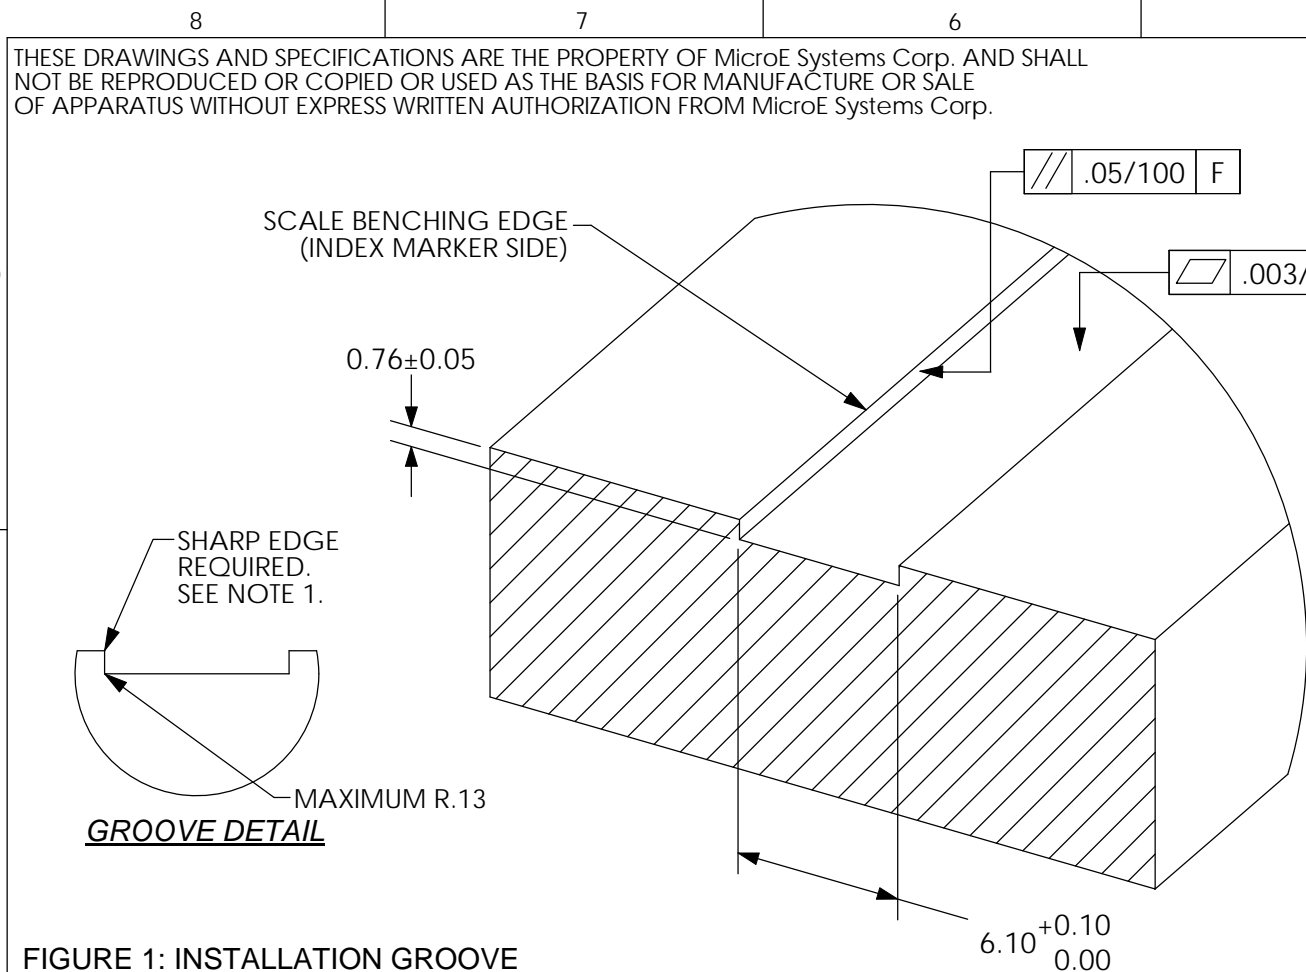
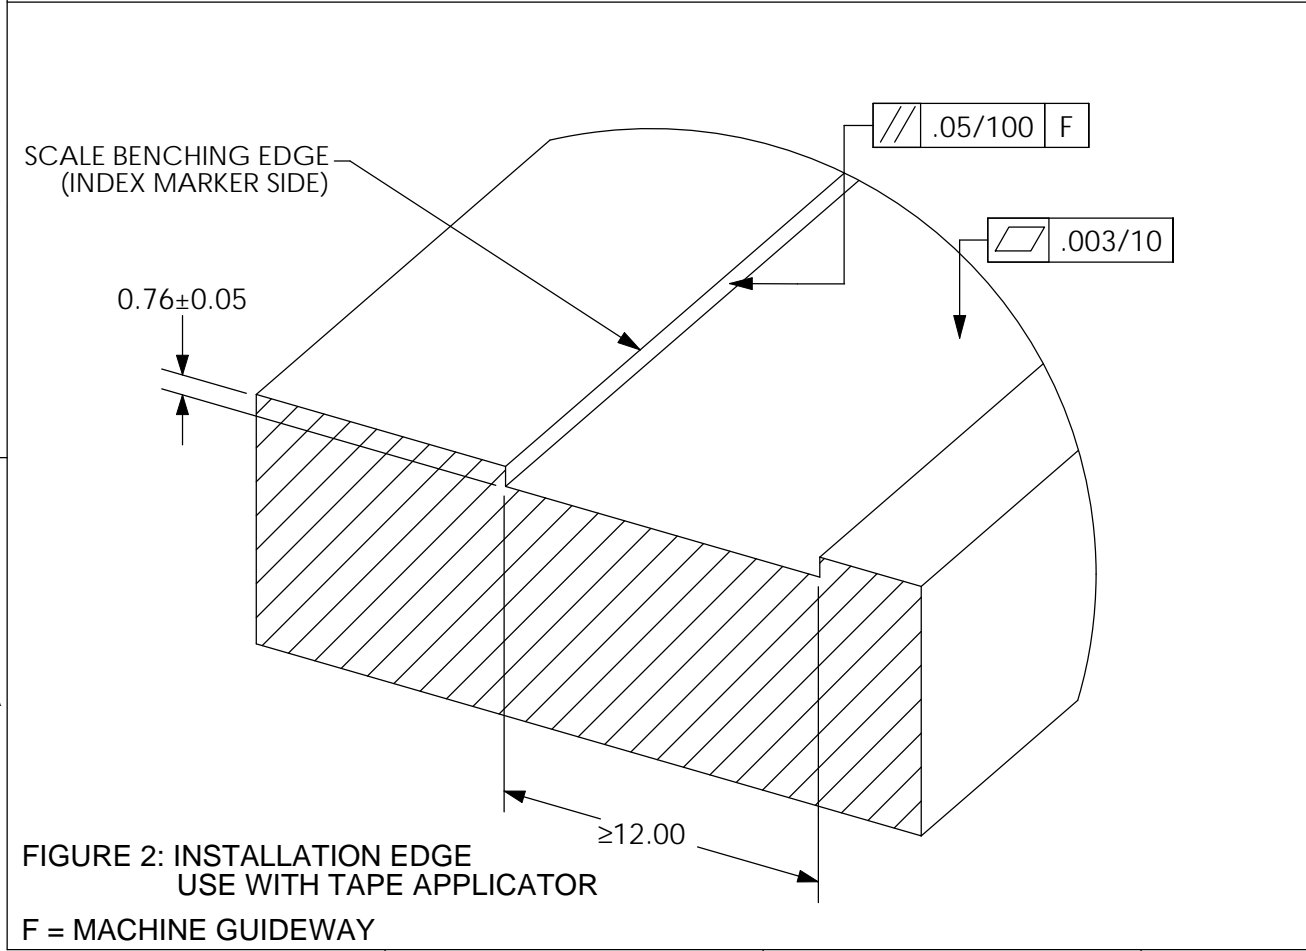
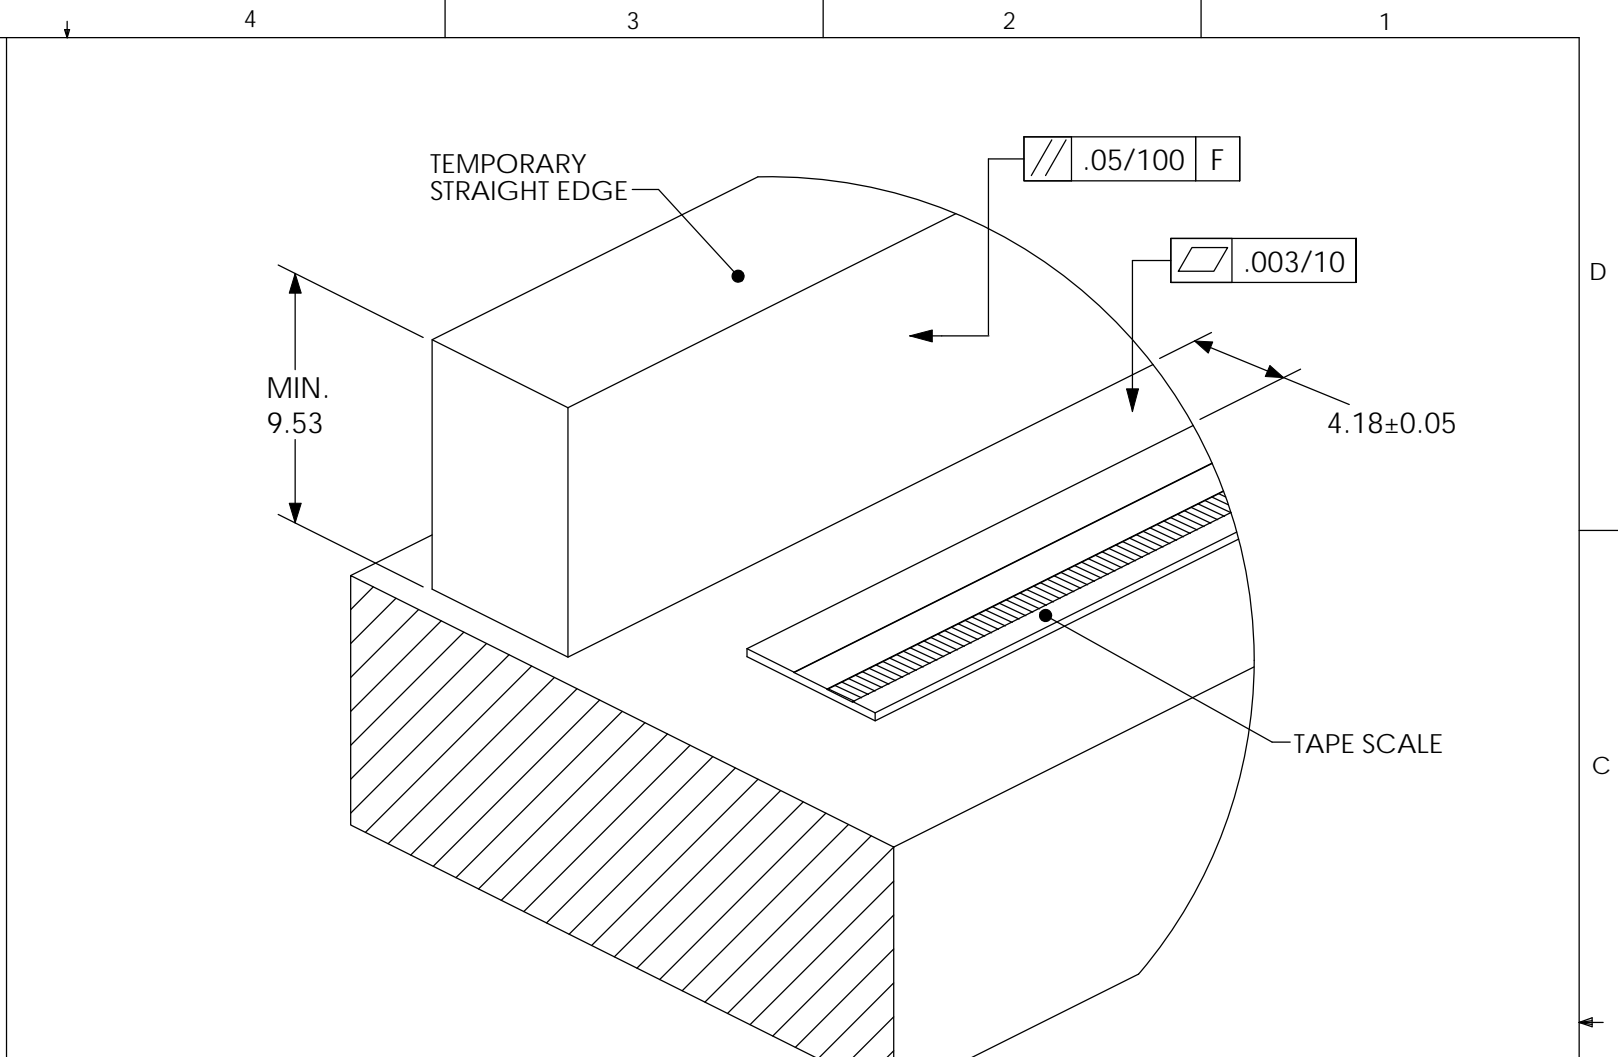

FIGURE 1: INSTALLATION GROOVE
FIGURE 2: INSTALLATION EDGE
FIGURE 3: INSTALLATION STRAIGHT EDGE
3. THE INSTALLATION METHOD SHOWN IN FIGURE 1 SHOULD INVOLVE HAND INSTALLATIONS ONLY. THE APPLICATOR TOOL IS NOT COMPATIBLE WITH THIS METHOD. IN ADDITION END CAPS CANNOT BE USED WITH THIS METHOD.
4. FOR APPLICATIONS WHERE MACHINING THE MOUNTING SURFACE IS NOT DESIRED, A TEMPORARY STRAIGHTEDGE CAN BE USED. A STAINLESS STEEL RULE MAY BE USED AS IN FIGURE 2 IF THE RULE MEETS THE THICKNESS REQUIREMENT. OTHERWISE, THE TEMPORARY STRAIGHTEDGE MAY BE USED AS SHOWN IN FIGURE 3.
5. IN FIGURE 3, THE OUTSIDE REFERENCE SURFACE OF THE TOOL SLIDES AGAINST THE TEMPORARY EDGE, AND THE TAPE SCALE IS THEREFORE OFFSET FROM THE EDGE AS SHOWN. IF THIS OFFSET IS TOO SMALL FOR THE APPLICATION, THE CUSTOMER MAY DESIRE TO CREATE A SPACER THAT CAN ATTACH TO THE OUTSIDE SURFACE OF THE TOOL. PLEASE SEE INSTRUCTION MANUAL FOR DETAILS.
6. IN FIGURES 1 AND 2, THE SCALE BENCHING EDGE IS INTENDED TO AID THE INSTALLATION OF INDEX MARKERS. FOR APPLICATIONS SUCH AS IN FIGURE 3, THE CUSTOMER MAY USE A TEMPORARY BENCHING SURFACE TO INSURE THE PROPER INSTALLATION OF THE INDEX MARKERS. PLEASE SEE INSTRUCTION MANUAL FOR DETAILS. THE EDGE OF THE GROOVE OR STRAIGHTEDGE MUST BE SHARP ON BENCHING SIDE IN ORDER FOR APPLICATOR TO USE AS A GUIDE. IN ORDER FOR THE TAPE SCALE TO MOUNT CLOSE TO THIS EDGE, A MAXIMUM RADIUS OF .13 SHOULD BE USED WHERE THE EDGE MEETS THE BOTTOM OF THE MOUNTING SURFACE.